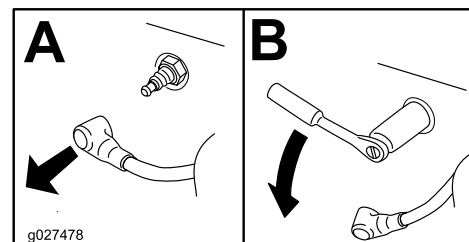

Figure 35
3. Locate and remove the spark plug(s) as shown in Figure 35.